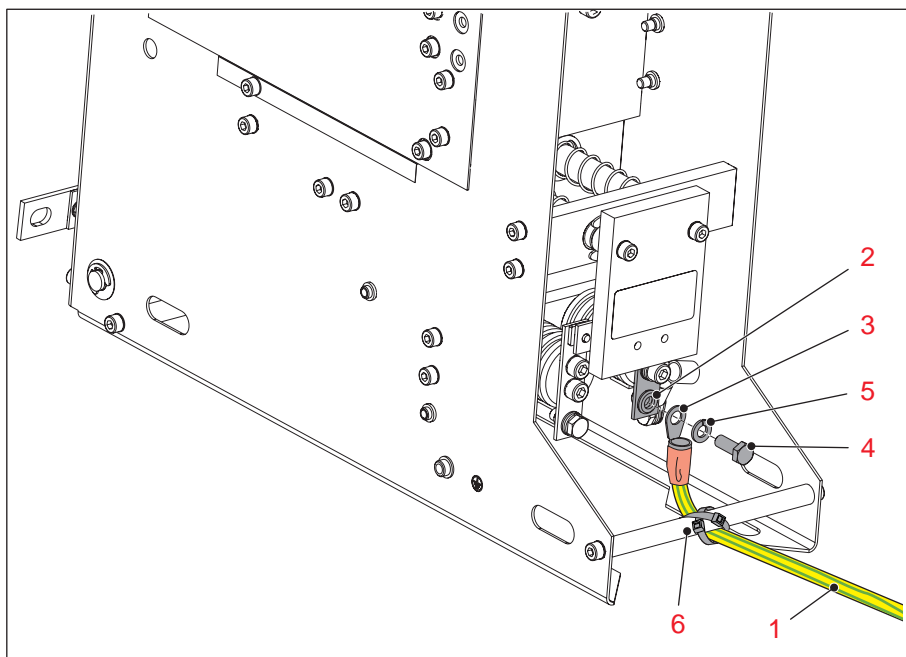

Figure 5: Laying and connecting the earthing cable
1. Thread the earthing cable (1) from the backside underneath the cross bolt (6) into the device, see **Figure 5**.
2. After that, lay the earthing cable (1) to the earthing contact (2), see **Figure 5**.
3. Connect the cable lug (3) of the earthing cable with the hexagon head bolt M6 (4) and detent-edged ring (5) to the earthing contact (2), see **Figure 5**.
4. Secure the earthing cable with cable ties on the back cross bolt (6), see **Figure 5**.